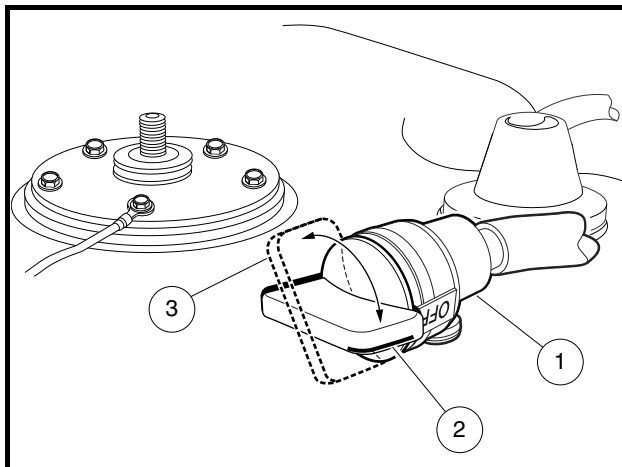
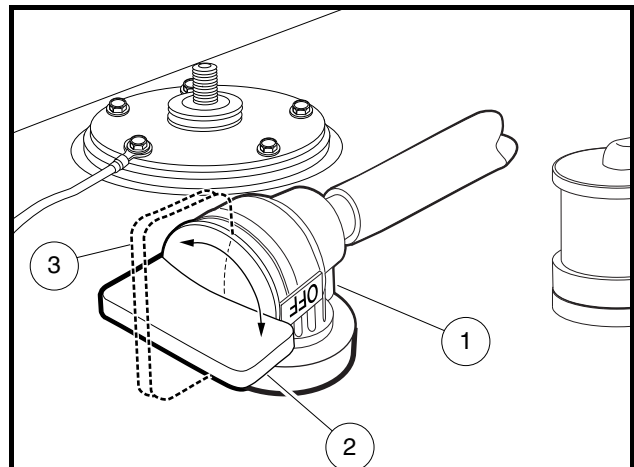

Figure 3-3 Fuel Shut-off Valve – 49-State Fuel Tank
Figure 3-4 Fuel Shut-off Valve – California Fuel Tank
- Turn fuel shut-off valve to closed (OFF) position (Figure 3-3, Page 3-3) (Figure 3-4, Page 3-3).
- 4.1. Place the Forward/Reverse handle in the NEUTRAL position and the neutral lockout cam or switch in the MAINTENANCE position. Turn the fuel shut-off valve to the closed (OFF) position (**Figure 3-3, Page 3-3**) (**Figure 3-4, Page 3-3**) and run the engine until fuel remaining in the carburetor and fuel lines is depleted and the engine stalls. Return the neutral lockout cam or switch to the OPERATE position.
- 2.1. Remove plug from the fuel tank vent nipple and connect fuel vent line to nipple. Open the fuel shut-off valve (**Figure 3-3, Page 3-3**) (**Figure 3-4, Page 3-3**). Make sure the valve is fully open. A partially closed fuel shut-off valve combined with the use of the choke can result in a fouled spark plug and engine failure.